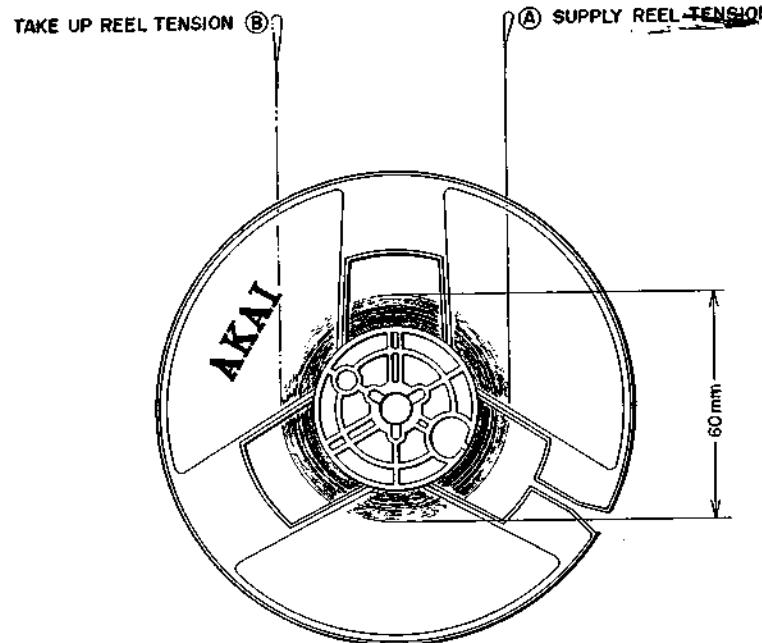

Fig. 11
For measuring the tension of each reel, it is ideal to use an empty 5" reel on which a tape has been wound to cover a 60 mm diameter as shown in Fig. 11.
Check and Adjustment (See Fig. 11- (A))
Check and Adjustment (See Fig. 11- (B))
- To measure the tension between felt (2) and rewind roller A (10), load the tape and at forward mode, gently pull end of tape upward with a spring gauge (Fig. 11- (B)) Ideal tension at this part is 400 to 500 gr.
- Felt (11) on take up roller D (12) is for the purpose of clutch between take up roller A (10) and take up roller D. Measure the tension at this part in the same way as outlined in paragraph (a). Ideal tension is 150 to 180 grams. Adjust by increasing or decreasing the number of washers used.
- At Rewind mode the tension (free tension) should be 15 to 20 grams. Adjustment can be made by increasing or decreasing the number of washers used and by moving set sleeve B (14) up and down and repositioning.